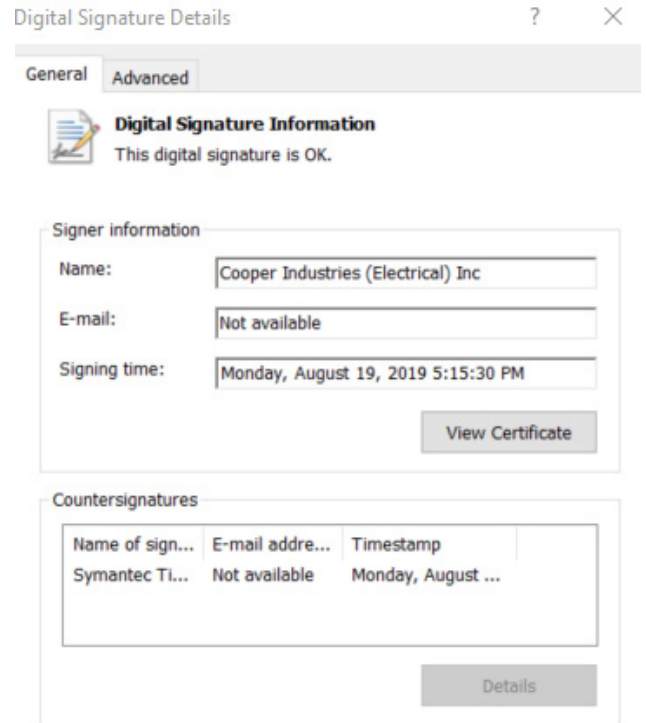

Figure 3: The Digital Signature Details windows, General tab
8. In the **Digital Signature Details** window, in the **General** tab, the **Name** in the Signer information pane should be *Cooper Industries Electrical Inc*. Also, the **Digital Signature Information**, at the top of the General tab should display the message: *This digital signature is OK*. (Refer to Figure 3)